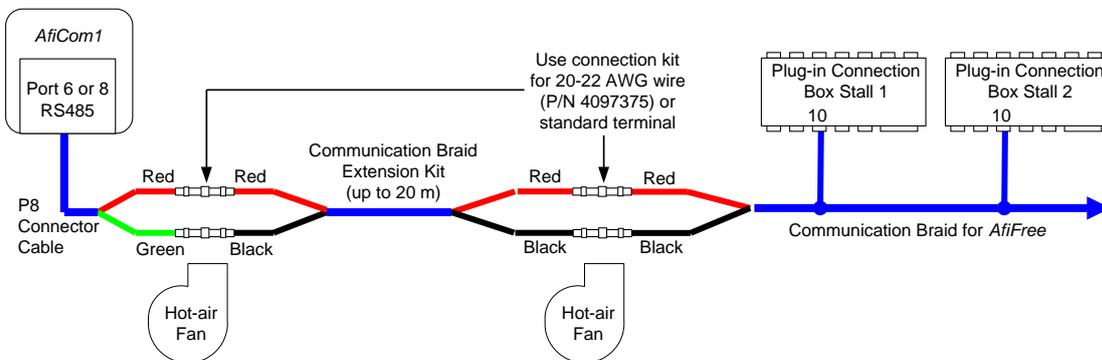

Figure 24: Communication Cable Wiring for a PICB
2. Connect the communication cable as in Figure 24.